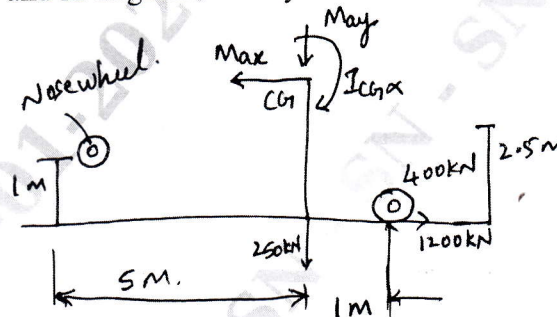

Fig.Q5(c)
c. An aircraft having a weight of 250 kN and a tricycle under carriage lands at a vertical velocity of 3.7 m/s, such that the vertical and horizontal reactions on the main wheels are 1200 kN and 400 kN respectively at this instant the nose wheel is 1.0m from the ground as shown the Fig.Q5(c). If the moment of inertia of the aircraft about its CG is  $5.65 \times 10^8 \text{ N} \cdot \text{s}^2 \cdot \text{mm}$ , determine the inertia forces on the aircraft, the time taken for its vertical velocity to become zero and its angular velocity at this instant.